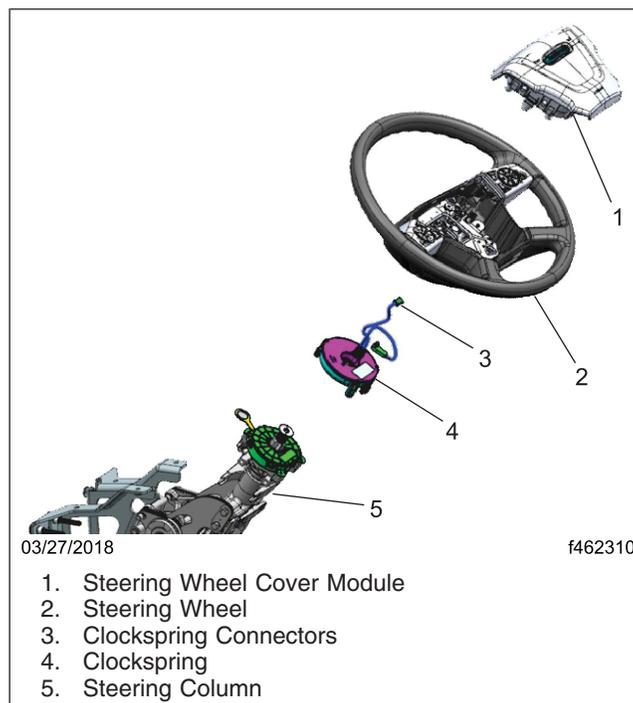

Fig. 18, Steering Wheel Cover Module, Steering column and Clockspring
- 17.2 Disconnect the clockspring connector from the right hand (RH) switch pod. See **Fig. 18**.